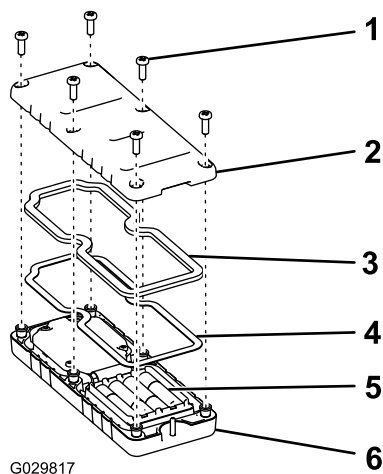

Figure 16
2. Plug each battery into a terminal cradle observing proper polarity (Figure 16).
3. Ensure that the steel gasket and rubber seal are seated in the channel in the remote and set the back cover in place (Figure 16).
4. Secure the cover with 6 screws (Figure 16) and torque them to 1.5 to 1.7 N-m (13 to 15 in-lb).